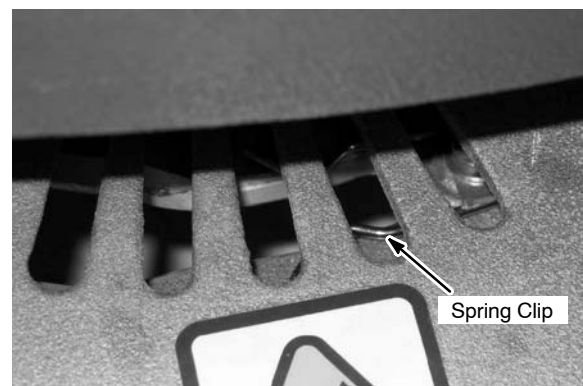

FIG. 9
4. Turn the brush motor hub until the slot with the spring clip is visible through the scrub head window (Figure 9).